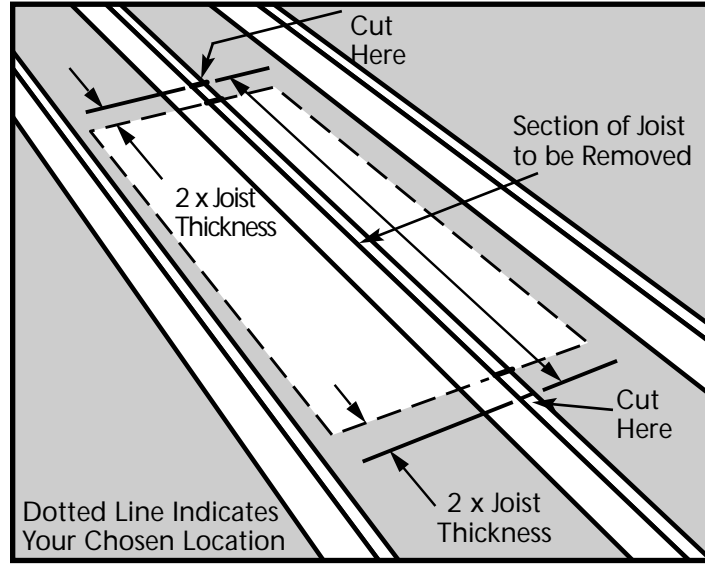
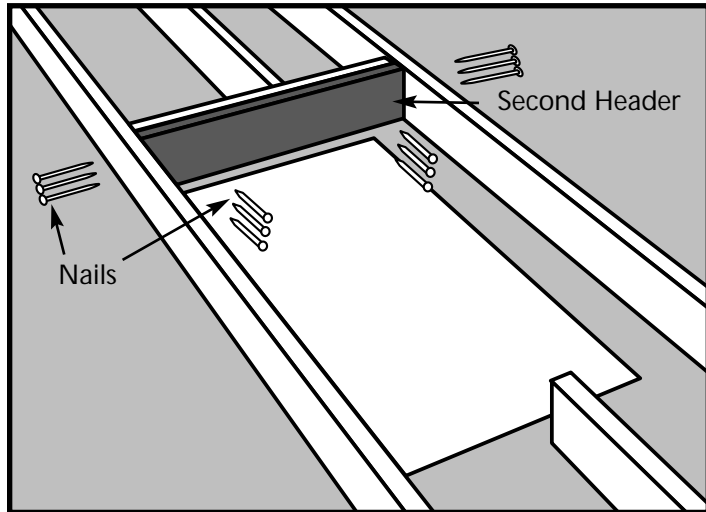

Figure 11
Figure 17
STEP 4. Next, determine where the joist(s) should be cut. Figure 11 shows where to mark the joist(s) that span your chosen location. Note that the joist(s) should be marked back from the edge of your location a distance of 2 times the joist thickness (usually three inches). This leaves room for two joist-sized headers to be placed against each end of the cut joist(s) (see Figure 17 on page 10).
- STEP 6. Place a second header against the first header and nail it to the first header with 3 nails (16d) between each joist as shown in Figure 17.
- STEP 7. Drive 3 nails (16d) through the joists into each end of the second header as shown in Figure 17.